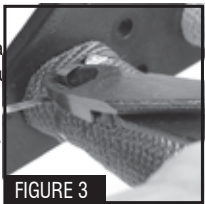

FIGURE 3
STEP 3: Trim excess tie using side cutters, fold under, and crimp. Figure 3